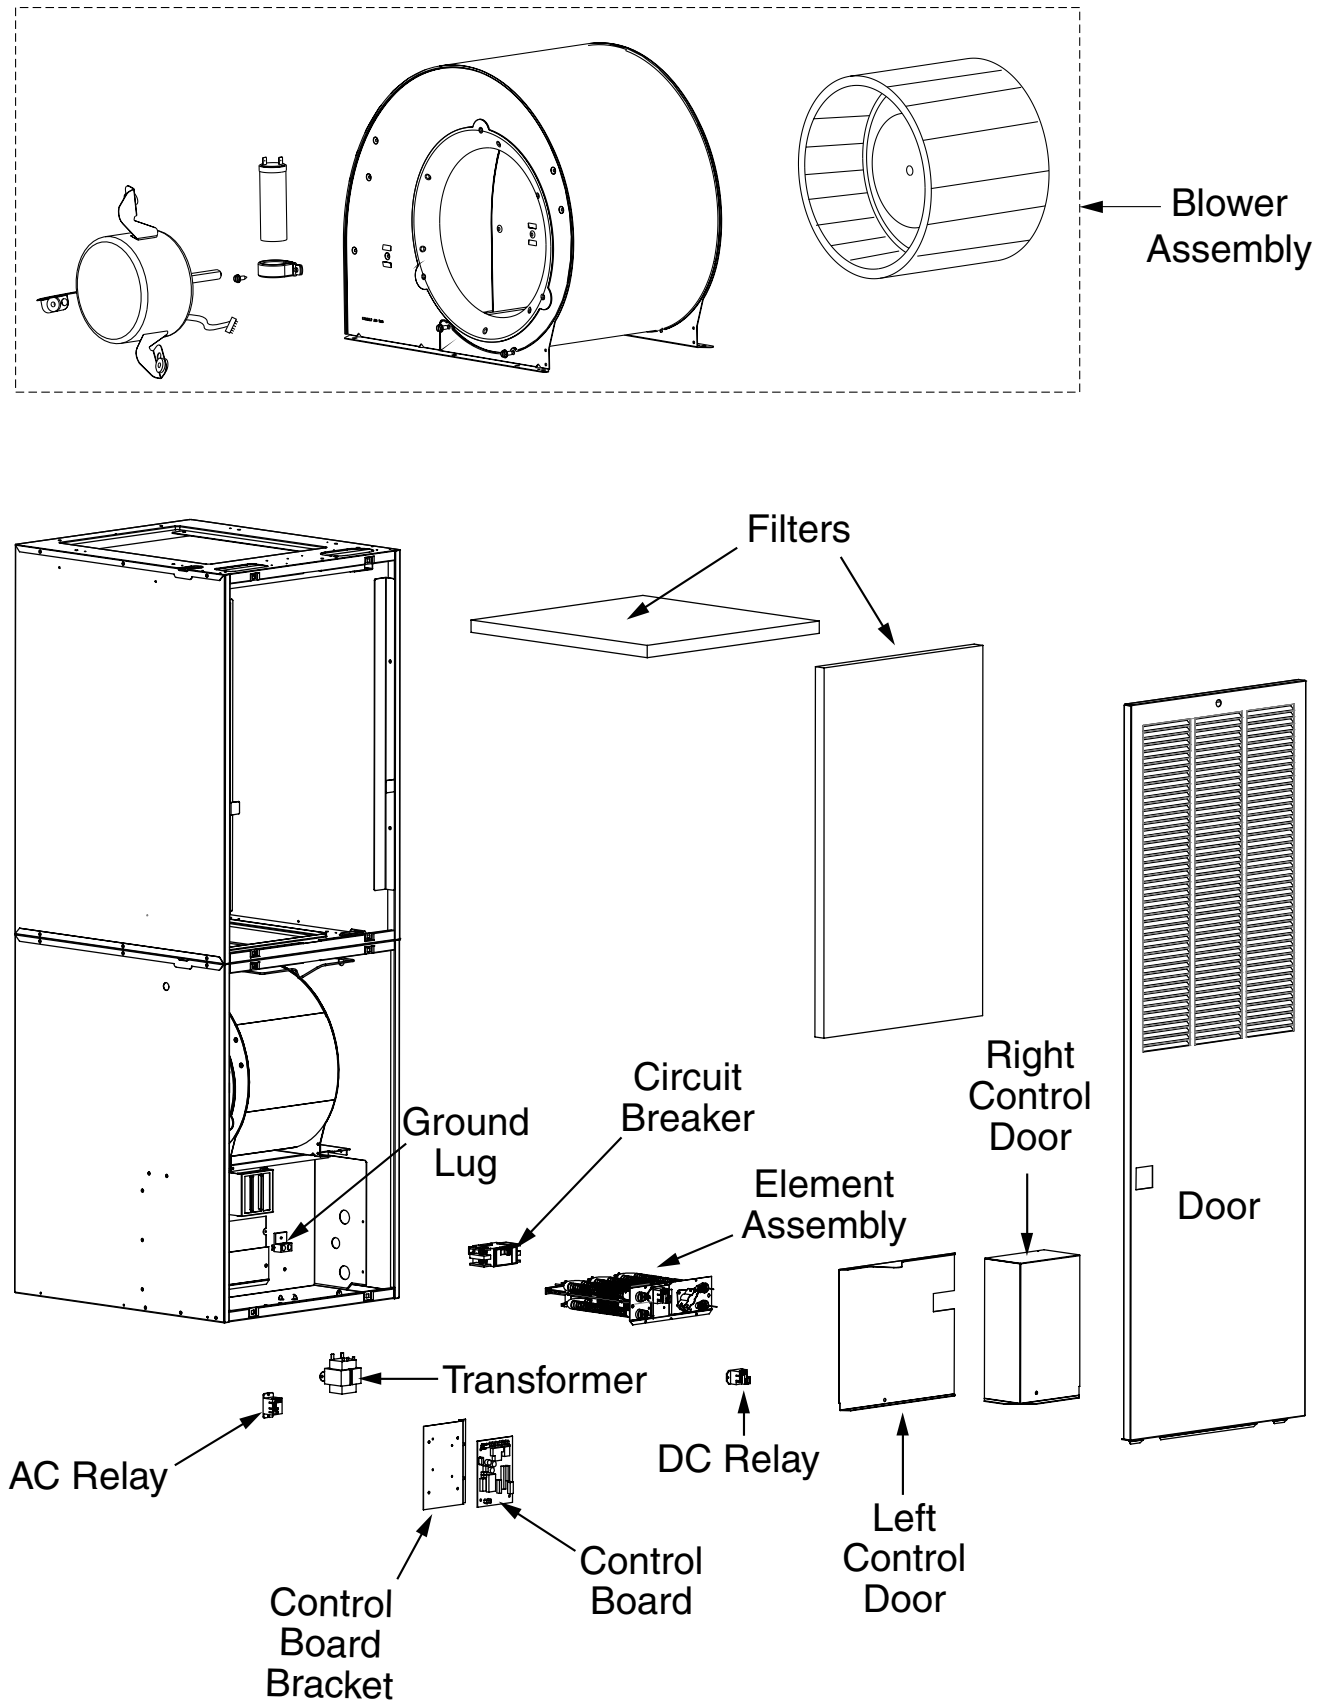

Figure 19. E5 Furnace Components (Downflow Model Shown)
It is recommended that the line voltage (240 VAC) to the furnace be supplied from a dedicated branch circuit containing the correct fuse or circuit breaker for the furnace. For minimum circuit ampacity and maximum over-current protection, see Table 6. See unit wiring diagrams (Figure 23, Figure 24, Figure 25, & Figure 26) for wiring details. Electrical components are shown in Figure 19 (page 16).
6. Connect service ground wire(s) to grounding lug(s) provided. One ground is required for each supply circuit used. See ground lug in Figure 19 (page 16).